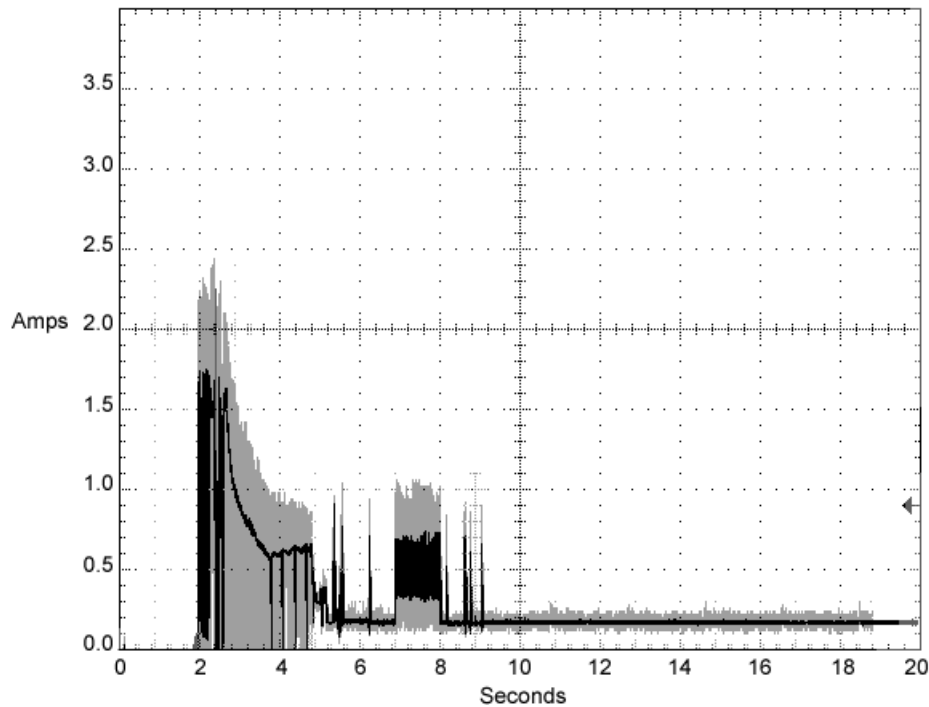

Figure 2. Typical ST973401FC drive +12V current profile
- [3] See +12V current profile in Figure 2.